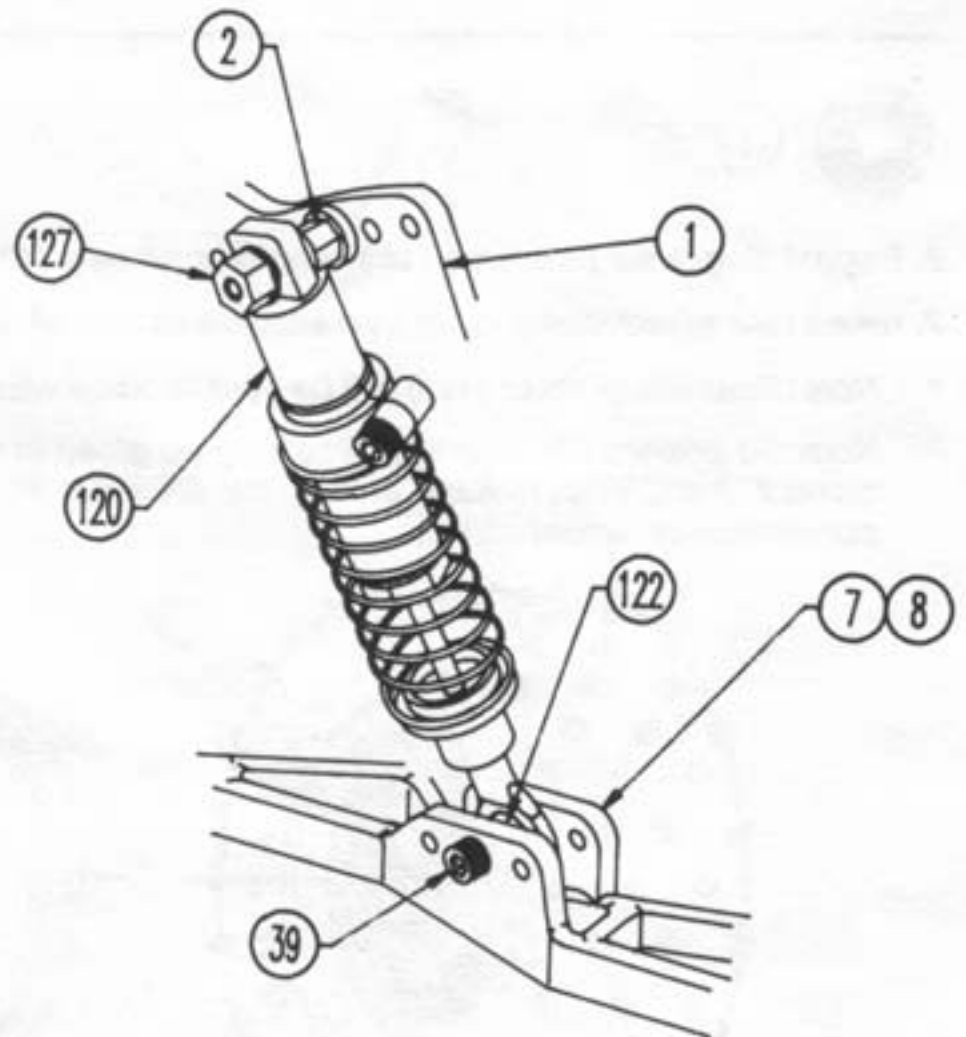

Figure 51
22. For front shocks, align 1/4" shock mount ball (122) between rails on front A-arm (7),(8). Fig. 51
23. Thread a 4-40 x 1/2" cap head screw (39) into middle hole on front A-arm (7),(8), through the 1/4" ball and into the other side of the A-arm (7),(8). Fig. 51
24. Place shock body (120) on shock mount (2) in front shock tower (1) and secure with a 4-40 nylon nut (127). Fig. 51